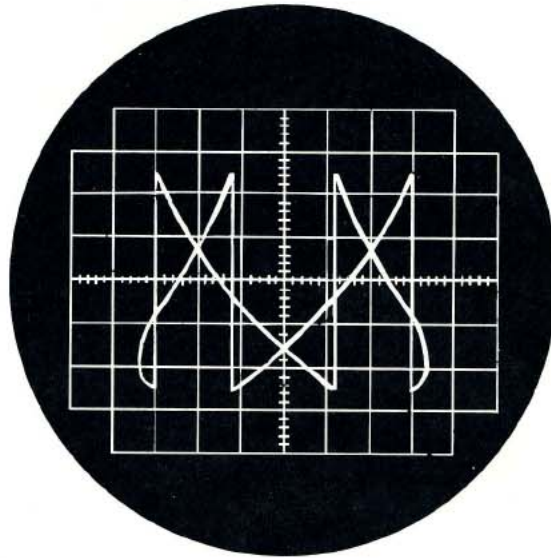

Fig. 30 Lissajous Pattern
5. Adjust VR3 so that lissajous pattern displayed on oscilloscope becomes stationary (Fig. 30).